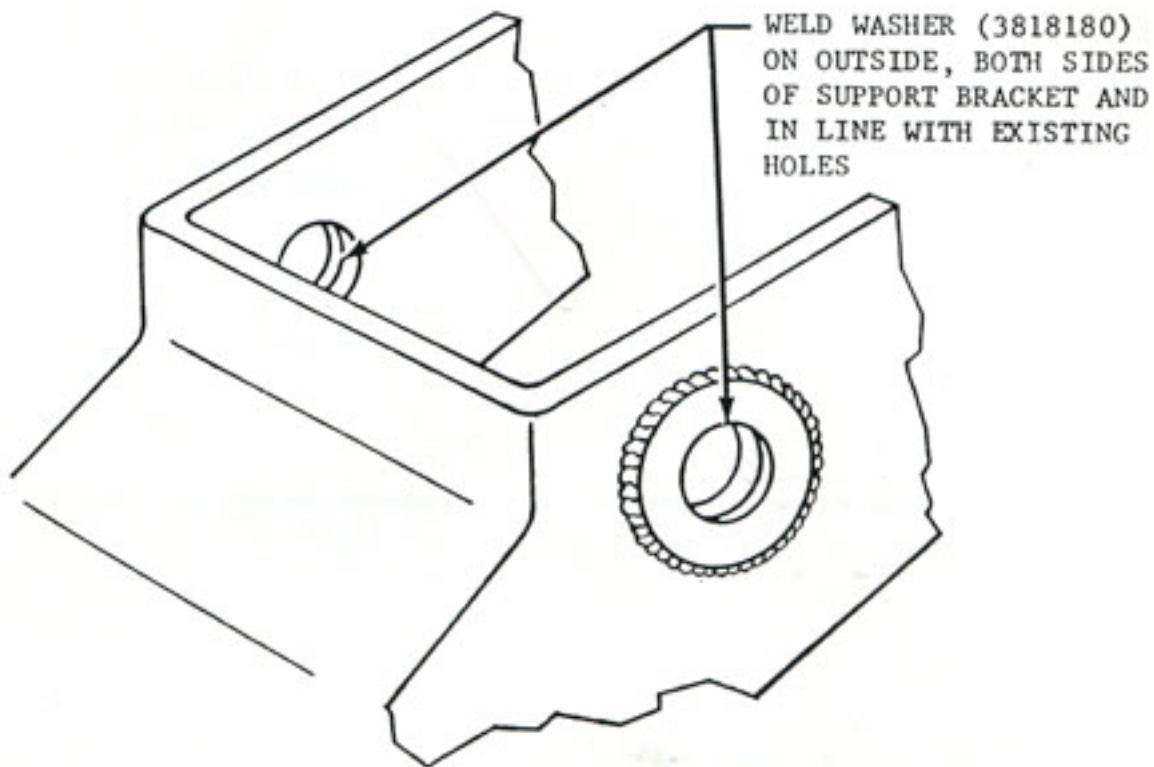

FIGURE 1
1. If reinforced bracket, Part No. 3868799 is not available, obtain Part No 3820186 and weld one flat washer, (Part No. 3818180) on each outside surface in line with existing holes (See Figure 1.)